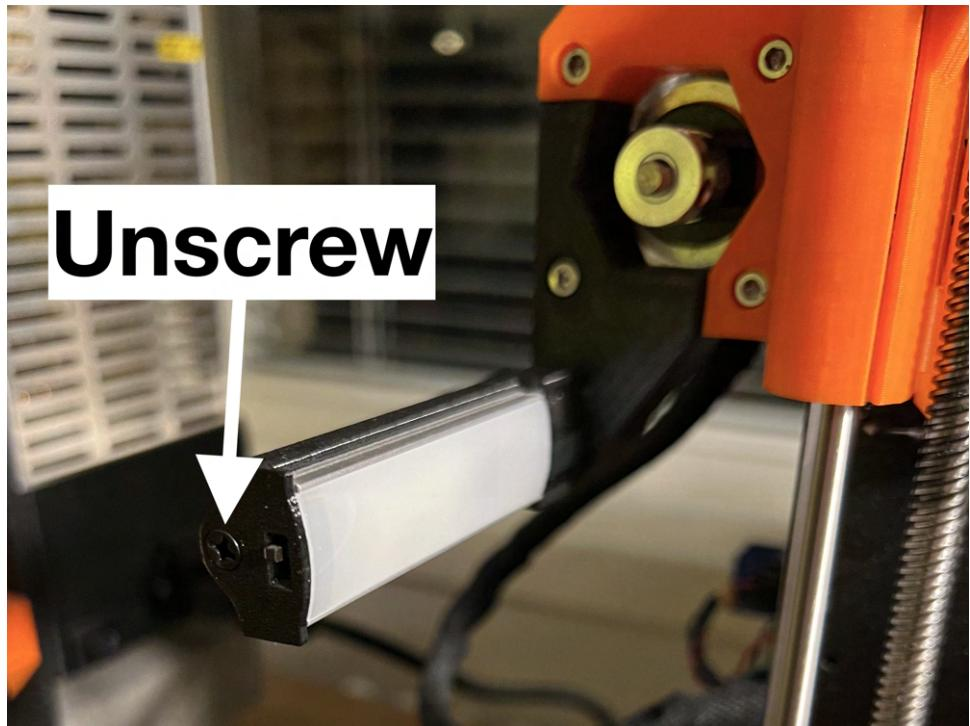

Figure 18: Caption
1. Begin by unscrewing the end cap of the light, like shown in Figure 18.